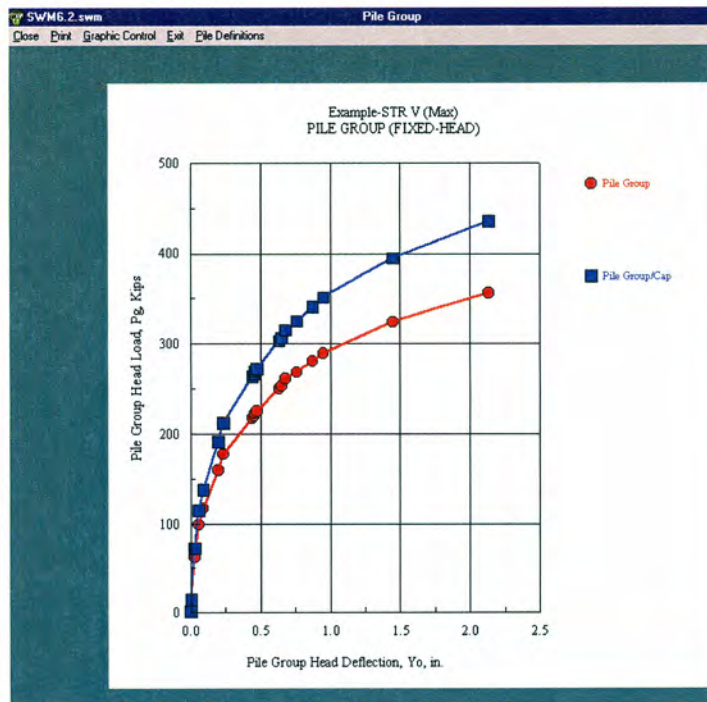

Fig. 30 Pile-Head Lateral Load vs. Deflection for Pile Group with and without Pile Cap
- Pile-Group Lateral Load vs. Displacement for pile group with and without cap. [Fig. 30].